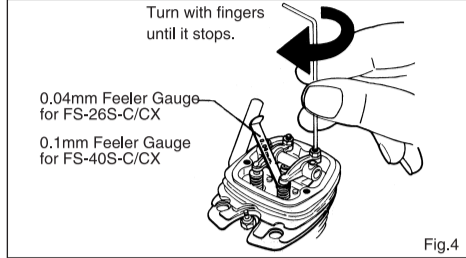

Fig.4
3. Insert 0.04mm for FS-26S-C/CX and 0.1mm gauge for FS-40S-C/CX feeler gauge between valve stem and rocker-arm and gently turn adjusting screw clockwise until it stops.(Fig.4.)